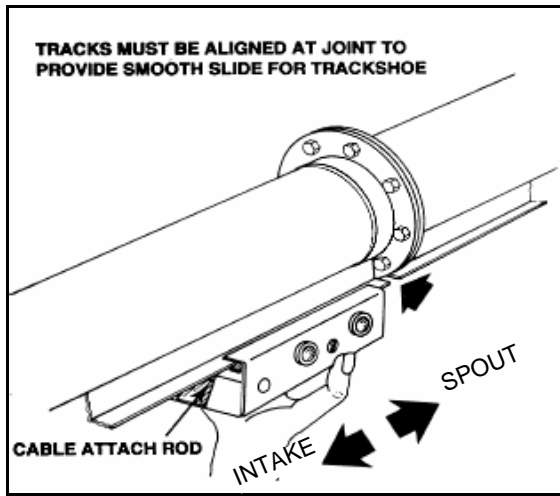
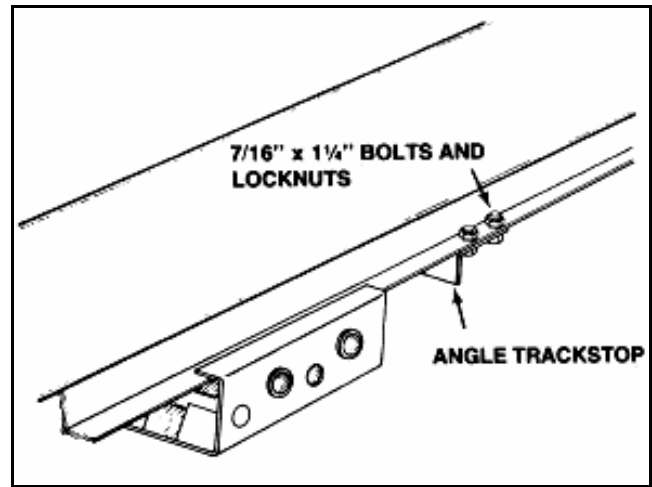

Figure 3.15 71'
Figure 3.16 71'
- ➔ 1. **71'**: Slide the double roller track shoe onto track with cable attach-rod towards auger intake (Figure 3.15). Attach the angle trackstop as shown in Figure 3.16 using four 7/16" x 1-1/4" bolts and locknuts.